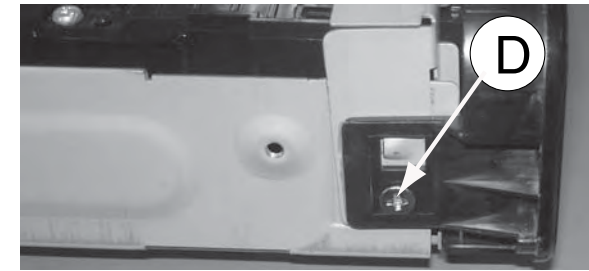

Figure 6
- 3 screws "C" at the bracket as shown in figure 6.